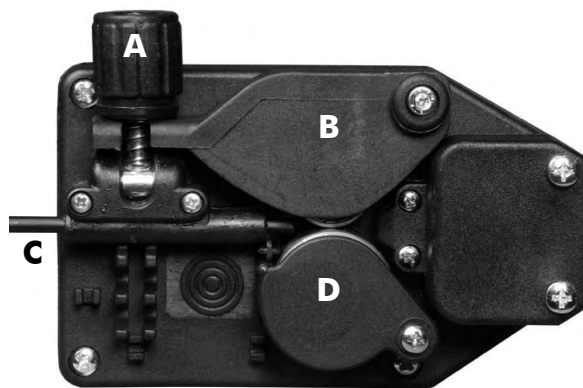

Figure 5
- Loosen and lower the plastic knob (A) (Fig.5). Open the pressure arm (B) of the feeder. Extract the wire from the torch liner.
- When the wire is disconnected, grasp it with pliers so that it cannot exit from the spool. If necessary, straighten it before inserting it in the wire input guide (C). Insert the wire on the lower roll (D) and in the torch liner.